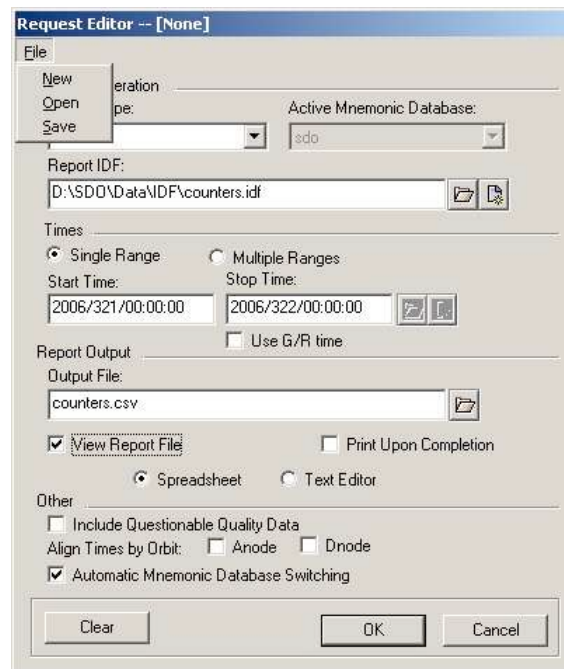

Figure 46: Request Editor Window
- Click the “Add” button to activate the Request Editor screen (see Figure 46).
- Click “Add” to activate the Request Editor screen (See *Figure 46*).
- Click the “Add” button to activate the Request Editor screen (see *Figure 46*).